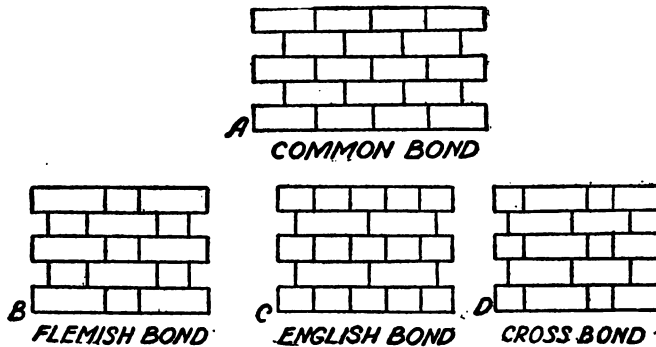

FIG. 13.—KINDS OF BONDS USED IN LAYING BRICKS
There are four chief bonds used in building brick structures, and these are (1) *common bond*, (2) *Flemish bond*, (3) *English bond* and (4) *cross bond*, all of which are shown in Fig. 13.